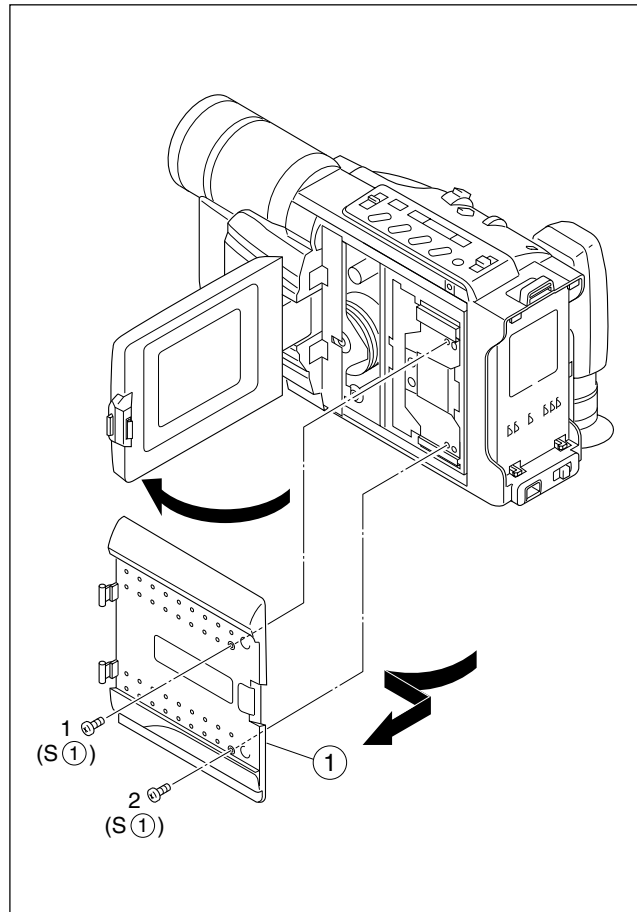

Fig. C1
2. Remove the cassette cover assembly, Upper case, Lower case assembly, Top operation unit, Front cover assembly, Monitor assembly (See Fig. C1, C2, C3, C5, C7 and C8, Pages 1-4 to 1-7).